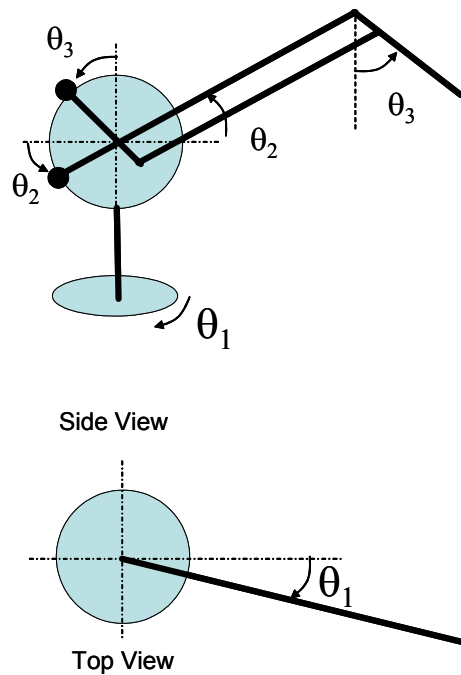

Figure 2. The top and side views of the PHANToM haptic device.
- d) Write a MATLAB function that calculates the joint angles for the given end-effector position (with respect to the directions given in Figure 2)